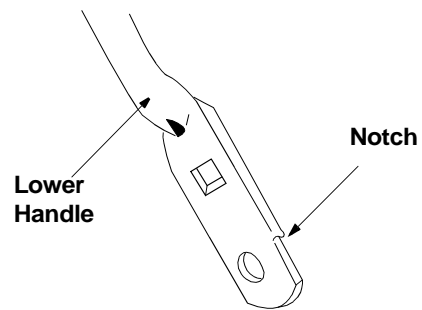

Figure 12
- Turn the lower handle around so the notch on the bottom of the lower handle is facing forward as shown in Figure 12. Reassemble, placing the bottom holes in the handle over the weld pins in the handle mounting bracket.